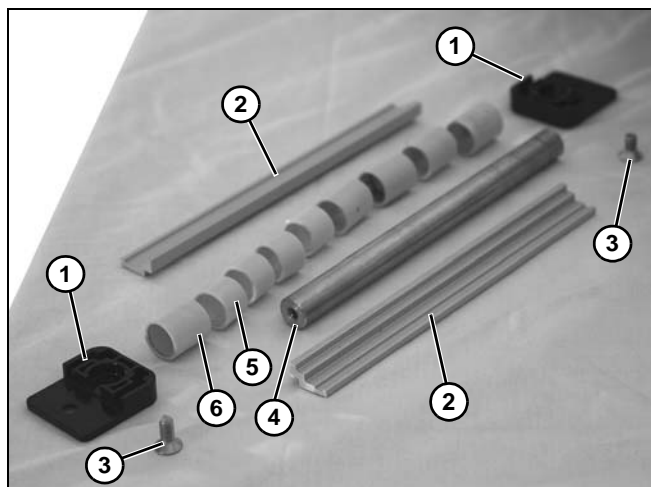

Figure 10
1. Locate return rollers. Exploded view shown in Figure 10.
2. Remove screws (**Figure 10, item 3**) from roller assembly.